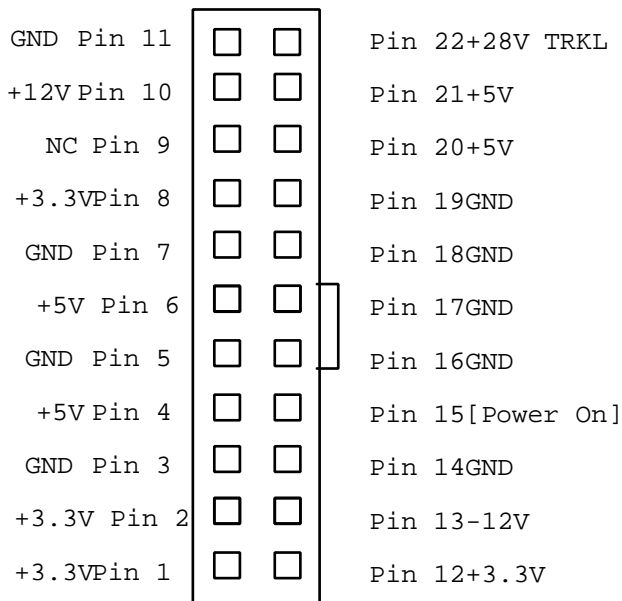

Figure 2. Power Supply 22-Pin Connector
3. Power Mac G4 (Gigabit Ethernet/Digital Audio) (see Figure 2):